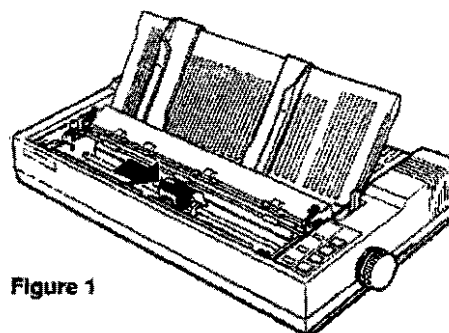

Figure 1
3. Slide the print head to the middle of the printer (Figure 1).